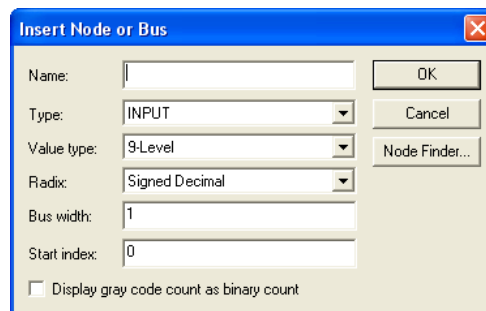
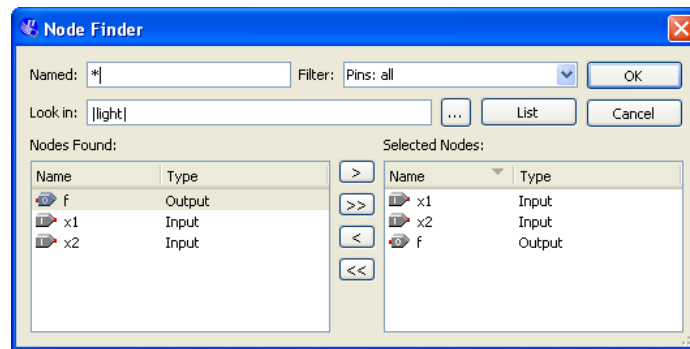
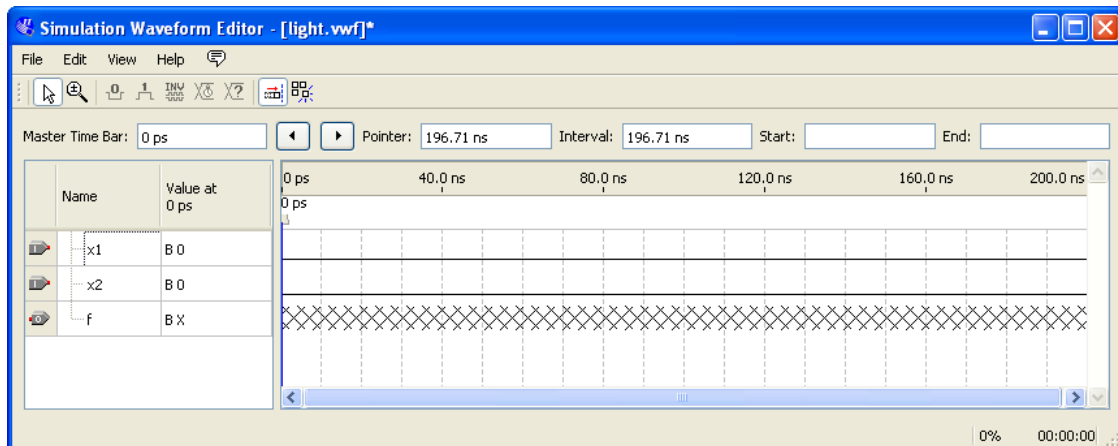

Figure 31. The Insert Node or Bus dialog box.
Figure 32. Selecting nodes to insert into the Waveform Editor.
Figure 33. The nodes needed for simulation.
6. Next, we want to include the input and output nodes of the circuit to be simulated. Click **Edit > Insert > Insert Node or Bus** to open the window in Figure 31. It is possible to type the name of a signal (pin) into the Name box, or use the Node Finder to search your project for the signals. Click on the button labeled **Node Finder** to open the window in Figure 32. The Node Finder utility has a filter used to indicate what type of nodes are to be found. Since we are interested in input and output pins, set the filter to **Pins: all**. Click the **List** button to find the input and output nodes as indicated on the left side of the figure.
Click on the *x1* signal in the Nodes Found box in Figure 32, and then click the > sign to add it to the Selected Nodes box on the right side of the figure. Do the same for *x2* and *f*. Click OK to close the Node Finder window, and then click OK in the window of Figure 31. This leaves a fully displayed Waveform Editor window, as shown in Figure 33.